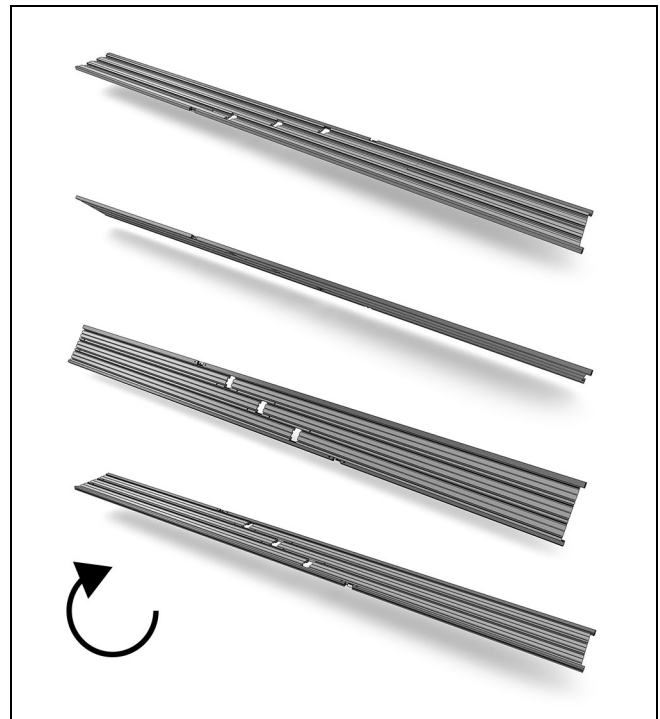

Figure 19
4. Flip the assembly upside down. See Figure 19.